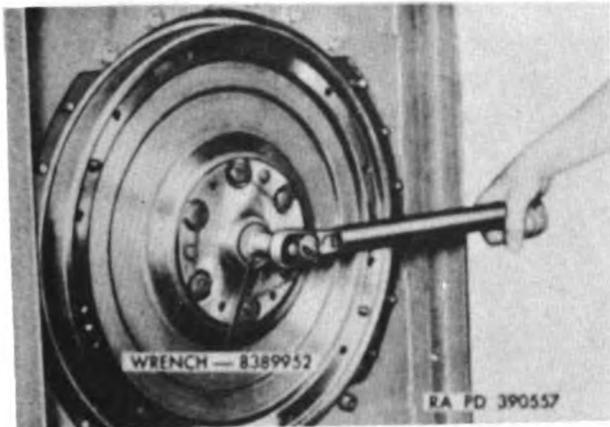
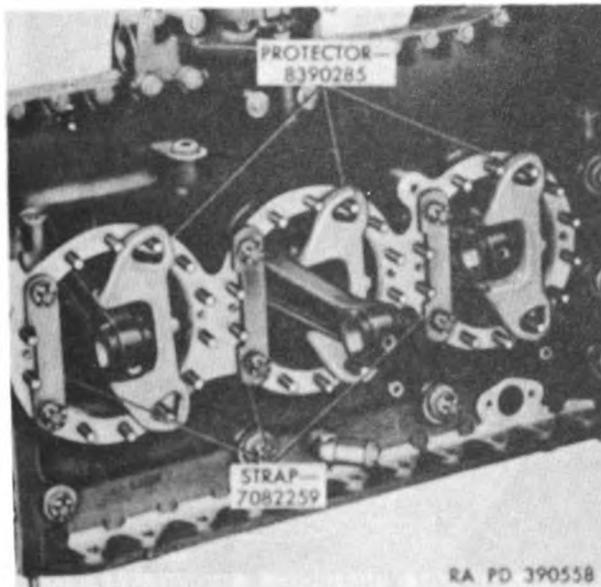

Figure 53. Turning engine from flywheel end.
Figure 54. Connecting rod protectors and thru bolt straps installed on crankcase.
- (1) Turn engine using wrench 8389952 (fig. 53) until piston in No. 1 cylinder is in top dead center position.
- (2) Remove remaining two hex nuts securing No. 1 cylinder to crankcase.
- (3) Loosen cylinder by jarring with the hands and remove by carefully pulling cylinder straight out until cylinder clears mounting studs. Hold in this position.
- (4) Install connecting rod protectors 8390285 (fig. 54) on studs to support connecting rod.
- (1) Turn engine (b(1) above) to bring next two pistons to top center. If crankshaft binds after removal of some cylinders, place strap 7082259 (T, fig. 10) under thru bolt nuts as shown in figure 54 and tighten nuts sufficiently to relieve binding.
- (2) Repeat steps a through c above to remove remaining cylinders and pistons.